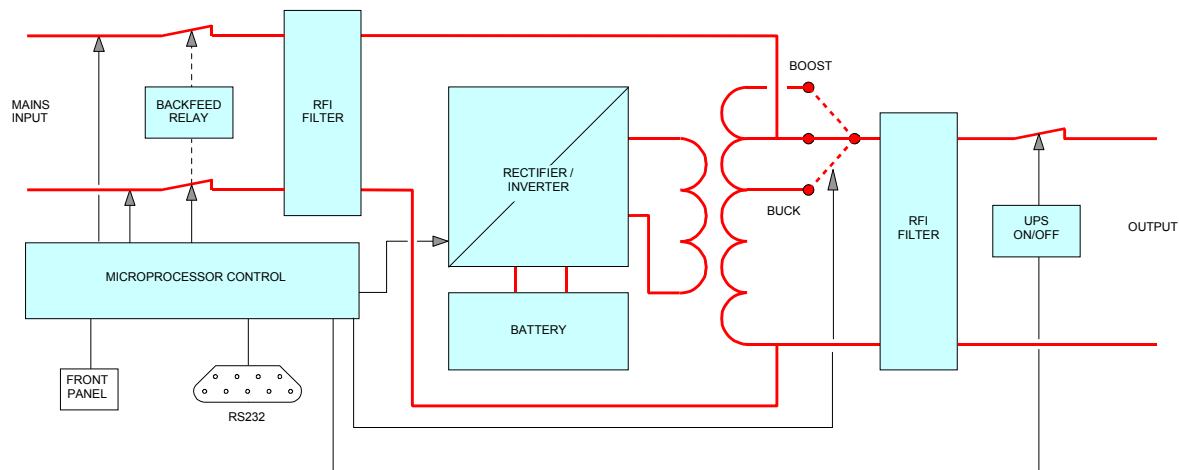

Fig. 1 Block diagram **Match lite** UPS
The **Match lite** UPS stores electric energy in batteries housed in the unit. This allows the UPS to supply output power even when the incoming mains power is cut off completely. Energy is stored as Direct Current (DC), while input and output energy must be Alternating Current (AC). Therefore the UPS contains a rectifier (to convert from AC to DC) and an inverter (to change energy from DC to AC). (See fig.1)